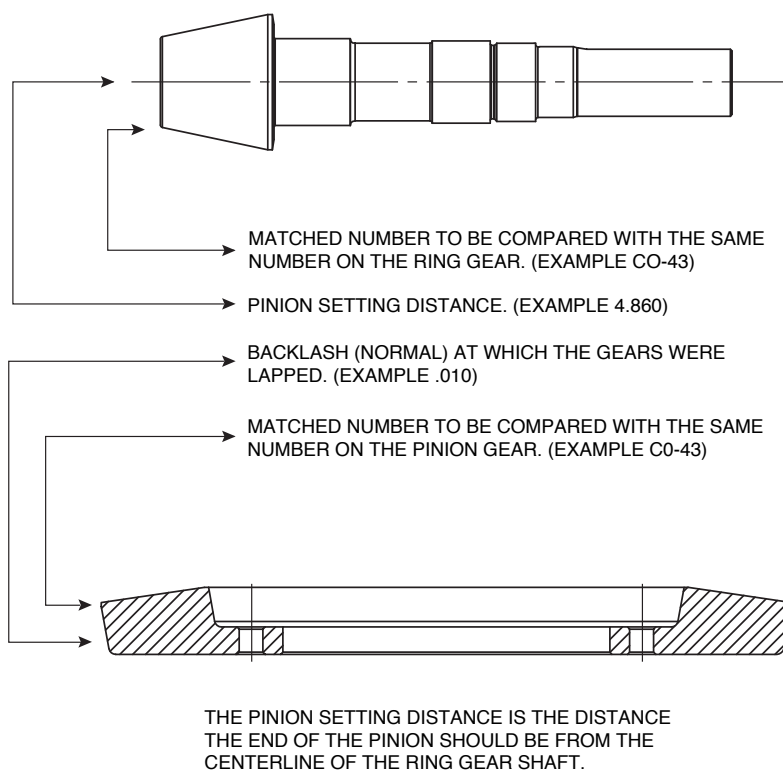

FIGURE 4 Gear Match Numbers and Setting Data
Note—The thickness of the shim pack (307) is important in resetting the gears. The shim pack should either be saved or carefully measured with a micrometer. If the gears are to be replaced, record the pinion setting distance that is etched on the pinion gear. See **Figure 4**.
4. Remove bearing retainer and shim pack (306) from top of case.
Before assembling a new pinion gear in the pinion cage, check match numbers on pinion gear and spiral bevel ring gear to be certain that they are a matched set. Gears are lapped in matched sets at the factory and should not be separated. Numbers are etched on both the pinion and ring gear as illustrated in **Figure 4**.
1. Place oil slinger (106) on pinion shaft. It is recommended to heat the slinger on an induction (bearing) heater so that it may be slid over the shaft.
2. Press head bearing cone (301) on pinion shaft making sure oil slinger and bearing are against gear.
5. Press tail bearing cone (302) on pinion shaft until it mates with its bearing cup. Do not over engage. Pinion cage should rotate freely.
7. Install O-ring (401) in groove on pinion cage.
8. Press pinion shaft seal (405) into pinion cage cap.
11. Record the pinion setting distance that is etched on the pinion gear. See **Figure 4**.